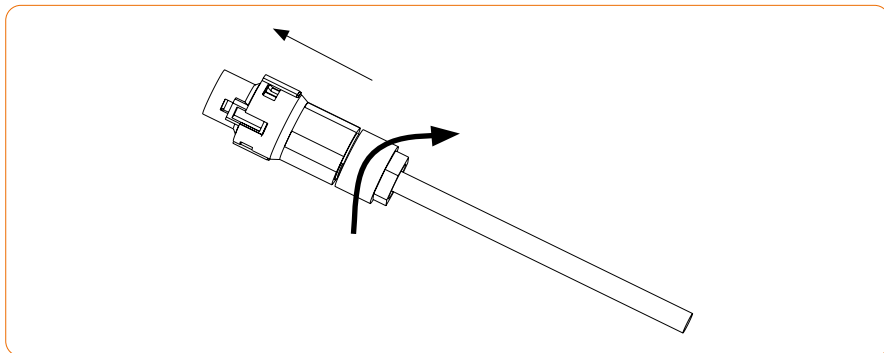

Figure 4-19
④ According to the arrow direction push the threaded sleeve to make it connected with the AC terminal head and then rotate the cable gland clockwise to lock it, as shown in figure 4-19: